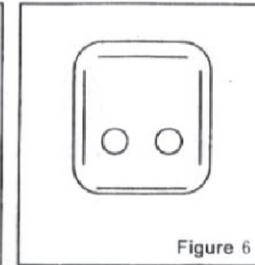

Figure 6
7. The electric outlet must be earth lead and the plug can't be changed optionally. (shown in figure 6)